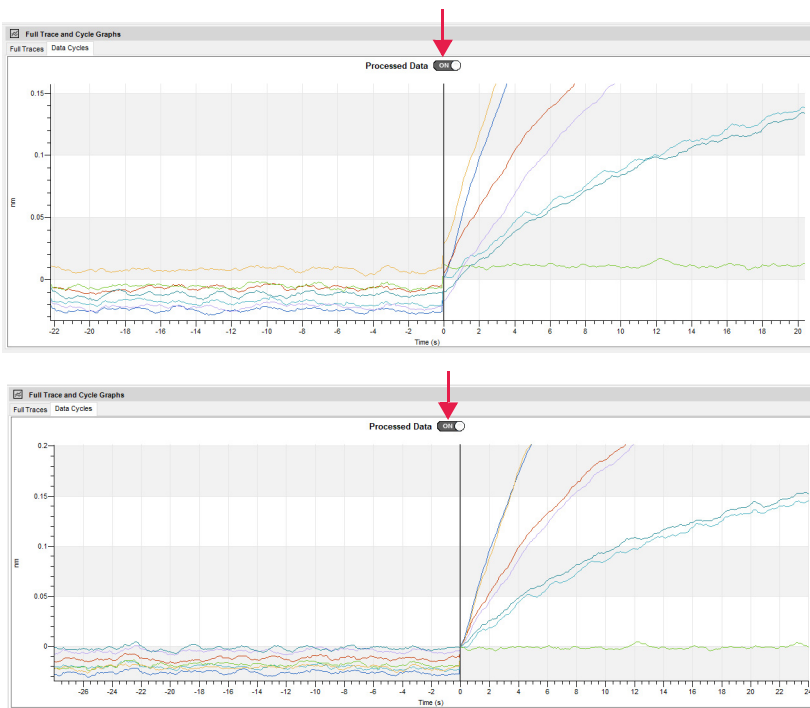

Figure 4-66: Y-axis aligned to Start of Association Step Uncorrected (Top) and Corrected Data (Bottom)
- **Start of Association Step** - This option is only used if there is a jump between the baseline and the association step due to a buffer mismatch or artifacts and the y-axis needs to be aligned to zero prior to fitting the data. An example of data aligned to the start of the association step is shown in Figure 4-66.